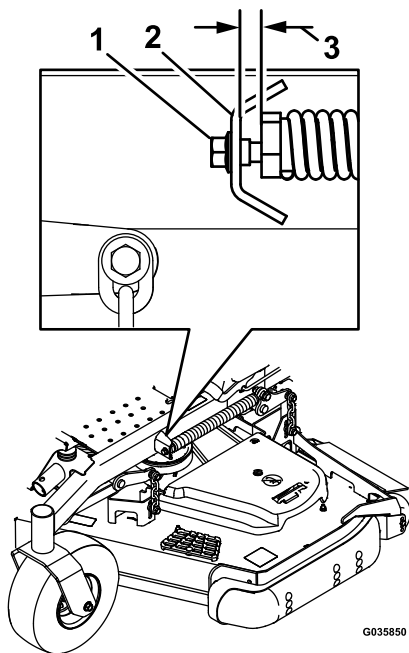

**Figure 102**
8. Check the front-to-rear blade level (Figure 102). Ensure the front blade tip is lower than the rear blade tip as shown in the block height and rake table. If adjustment is needed, continue with this procedure.